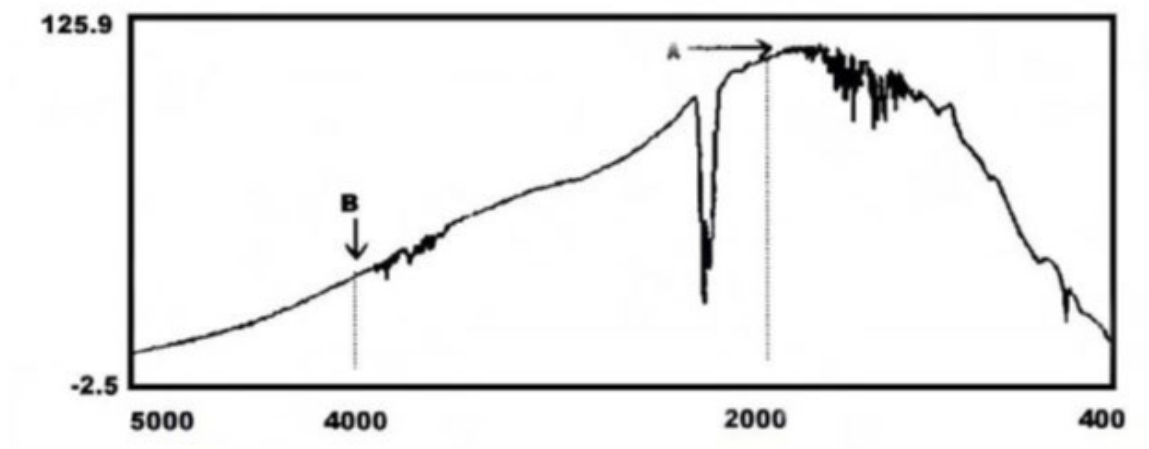

Figure 82. Normal Background Spectrum
You evaluate the spectral balance using a Background spectrum. A Background spectrum is provided in "Background Scan" Figure 71. It should look like Figure 82, having the same overall shape and peaks.
1. Compare your Background spectrum to the spectrum shown in Figure 82. Note the intensity of region A (2000 cm^{-1}) and region B (4000 cm^{-1})